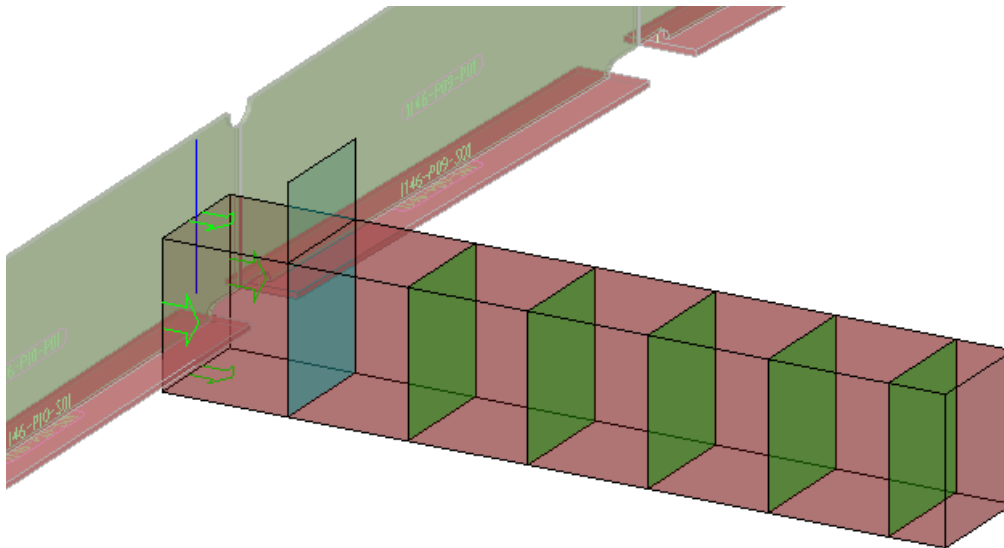

Figure 30: SCCableSupportArray - Selecting space allocations.
1. Run the `SCCableSupportArray` command. The first prompt will ask you to select one or more consecutive, connected, space allocation straights (Figure 30).